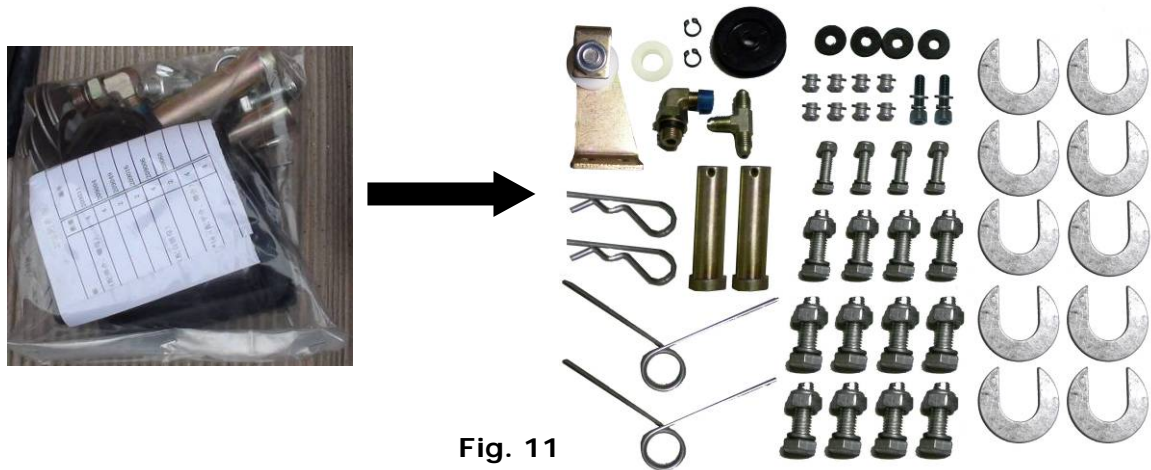

Fig. 11
7. Check the parts of the parts bag according to parts bag list (See Fig. 11).